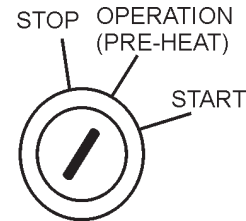
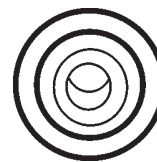

Figure 38. Ignition Switch (Operation/PreHeat Position)
Figure 39. Pre-Heat Lamp
2. Preheat the engine glow plugs by turning the ignition key (Figure 38) to the "OPERATION" position.
3. When the preheat lamp illuminates (Figure 39), turn the ignition key to the "start" position. Once the engine starts, release the ignition key and allow it to return to the "operation" position (Figure 38).